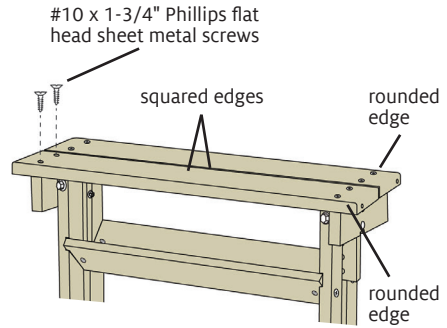

FIGURE 4: ATTACH BENCH SEATS
8. Orient the bench seats with the countersunk holes up and the squared edges next to each other, so the rounded edges run along the front and back of the bench. Place the bench seats on top of the seat supports, aligning the holes as shown in Figure 4. Attach the bench seats with eight #10 x 1-3/4" Phillips flat head sheet metal screws.